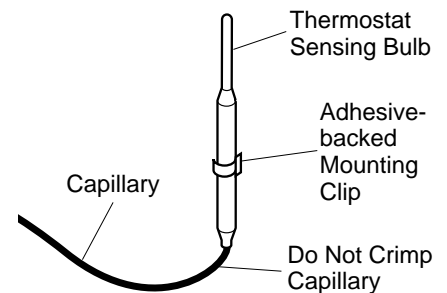

Figure 34 - Positioning the Thermostat Sensing Bulb in the Vertical Position with the Capillary at the Bottom
4. The mounting clip must be a minimum of 3" from bottom of fireplace to prevent crimping of capillary. Once you have decided on a location, clean the area thoroughly. Remove the paper backing from the adhesive on back of mounting clip. Press the clip into the new location so that the thermostat sensing bulb will be positioned vertically with the capillary at the bottom (see Figure 34). Slide the thermostat sensing bulb into the clip.